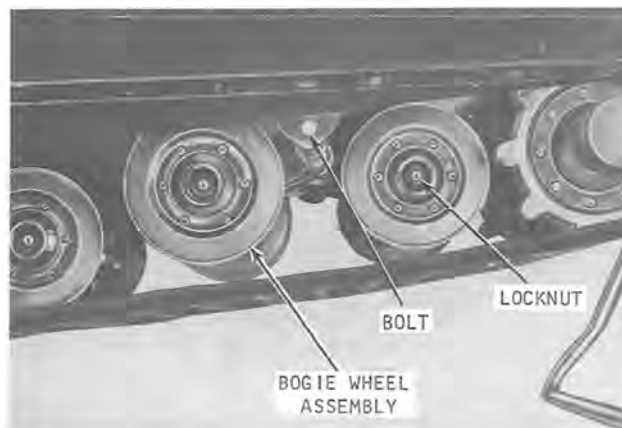

Figure 7
2. Remove the bogie wheel assembly by removing bolt (figure 7) and washer from each end of the bogie-wheel support shaft.
2. Remove bogie-wheel assemblies by removing bolts (figure 7) and washers from each end of bogie-wheel support shafts.